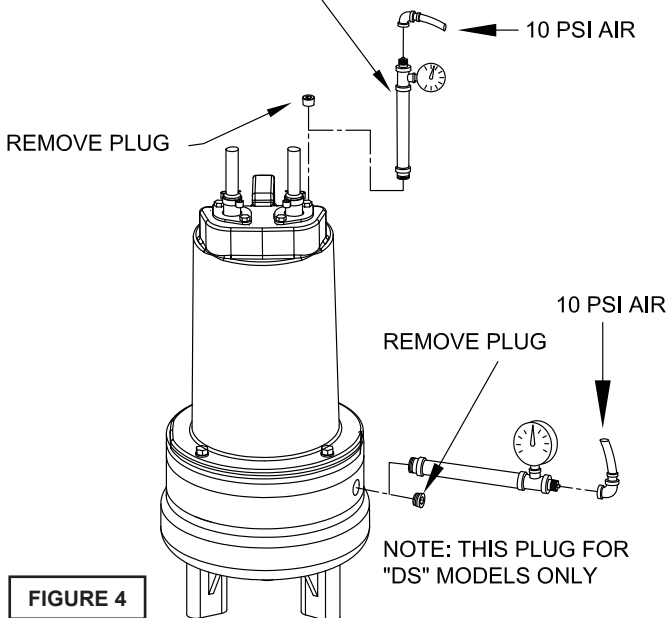

FIGURE 4
**Pumps that have had the oil drained from the Motor Housing** - Apply pipe sealant to pressure gauge assembly and tighten into pipe plug hole (See Figure 4). Pressurize motor housing to 10 P.S.I. Use soap solution around the sealed areas and inspect joints for "air bubbles".
**Pumps that have NOT had the oil drained from the Motor Housing** - The pressure test may be done with the oil at its normal level. Remove pipe plug (39) from motor housing (6). Apply pipe sealant to pressure gauge assembly and tighten into hole (see Figure 4). Pressurize motor housing to 10 P.S.I. Use soap solution around the sealed areas above the oil level and inspect joints for "air bubbles". For sealed areas below the oil level, leaks will seep oil. If, after five minutes, the pressure is still holding constant, and no "bubbles"/oil seepage is observed, slowly bleed the pressure and remove the gauge assembly. If the pressure does not hold, then the leak must be located and repaired.
**Seal Chamber (DS Units Only)** - Set unit on its side with fill plug (44) downward, remove plug (44) and drain all oil from seal chamber. Apply pipe sealant to pressure gauge assembly and tighten into hole in outer seal plate (29). Pressurize seal chamber to 10 P.S.I. and check for leaks as outlined.
To clean out volute (1) or replace impeller (33) or U-cup (57), disconnect power, remove hex bolts (26), and lockwasher (12), vertically lift motor and seal plate assembly from volute (1), see Figure 4. Clean out body if necessary. Check U-cup (57) for damage. If U-cup needs replacement, cut the U-cup from the volute (1) and clean surface of bore. Clean and examine impeller (33), for cracks or breakage and replace if required, inspect gasket (36) and replace if cut or damaged. If the impeller (33) needs replacing, place a flat screwdriver in the slot of the end of the shaft to hold the shaft stationary while unscrewing the impeller (33).